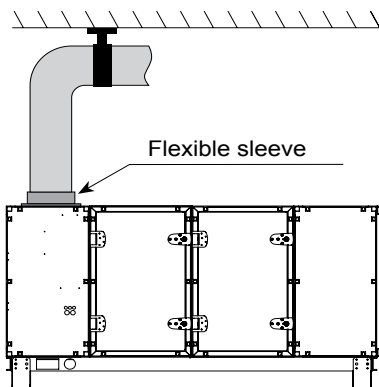

Fig.2
- The hydraulic control valve kits must be supported close to their point of connection on the unit (Fig. 2)
For units supplied in separate elements, a counter frame must be used to add anti-vibration mounts (Fig. 2) (Frame and mounts supplied by the customer).